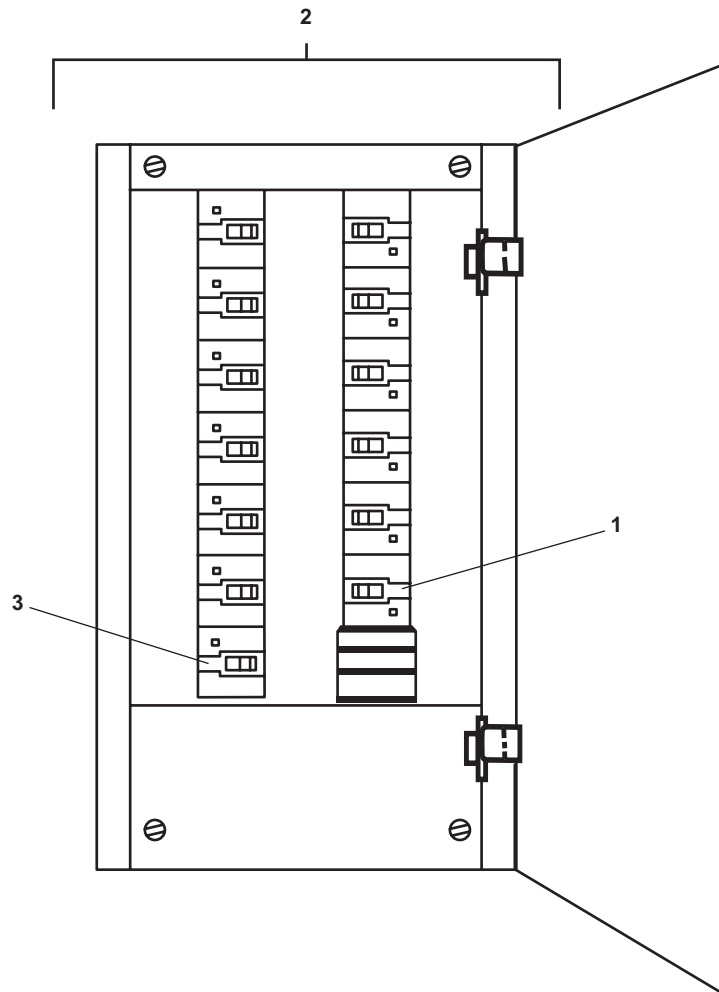

Figure 5. 440V Power Panel No. 1
5. To operate sewage discharge pump No.1 (figure 3, item 39), set to ON the SEWAGE DISCHARGE PUMP No. 1 circuit breaker (**LT 803 Only**), or the LVP FOR STARBOARD SEWAGE DISCHARGE PUMP No. 1 circuit breaker (**All Other Vessels**) (figure 5, item 1) in the 440V power panel No. 1 (figure 5, item 2).
7. To operate sewage discharge pump No. 2 (figure 3, item 40), set to ON the SEWAGE DISCHARGE PUMP No. 2 circuit breaker (**LT 803 Only**), or the LVP FOR PORT SEWAGE DISCHARGE PUMP No. 2 circuit breaker (**All Other Vessels**) (figure 5, item 3) in the 440V power panel No. 1 (figure 5, item 2).
14. Set to OFF the SEWAGE DISCHARGE PUMP No. 1 circuit breaker (**LT 803 Only**), or the LVP FOR STARBOARD SEWAGE DISCHARGE PUMP No. 1 circuit breaker (**All Other Vessels**) (figure 5, item 1) and the SEWAGE DISCHARGE PUMP No. 2 circuit breaker (**LT 803 Only**), or the LVP FOR PORT SEWAGE DISCHARGE PUMP No. 2 circuit breaker (**All Other Vessels**) (figure 5, item 3) in the 440V power panel No. 1 (figure 5, item 2).
5. Set to OFF the SEWAGE DISCHARGE PUMP No. 1 circuit breaker (**LT 803 Only**), or the LVP FOR STARBOARD SEWAGE DISCHARGE PUMP No. 1 circuit breaker (**All Other Vessels**) (figure 5, item 1), and the SEWAGE DISCHARGE PUMP No. 2 circuit breaker (**LT 803 Only**), or the LVP FOR PORT SEWAGE DISCHARGE PUMP No. 2 circuit breaker (**All Other Vessels**) (figure 5, item 3) in the 440V power panel No. 1 (figure 5, item 2). Lock out and tag out (FM 55-502).